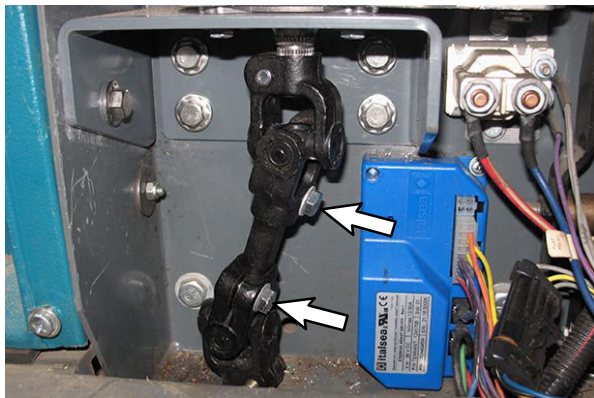

FIG. 18
12. Reinstall the two previously removed M8 hex screws into the lower power steering shaft. Torque the SEMS M8 hex screws to 22 Nm (16 ft lbs). (Fig. 18)